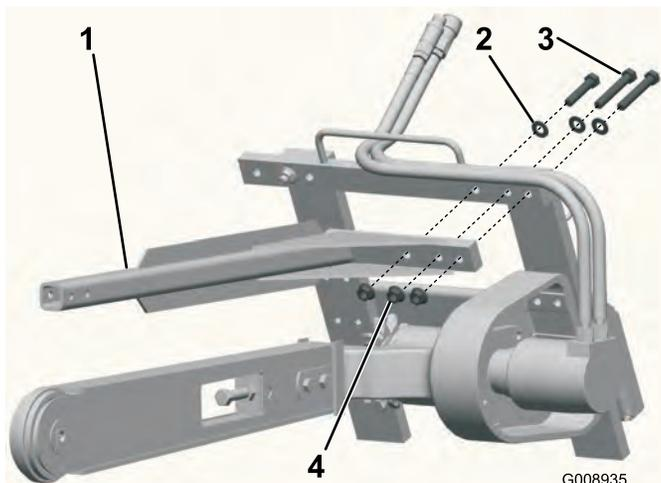

Figure 4
- Remove the 3 bolts, washers, and flange nuts from the upper left corner of the trencher frame (Figure 4).
- Using the fasteners removed previously, install the trencher safety bar as illustrated in Figure 4.